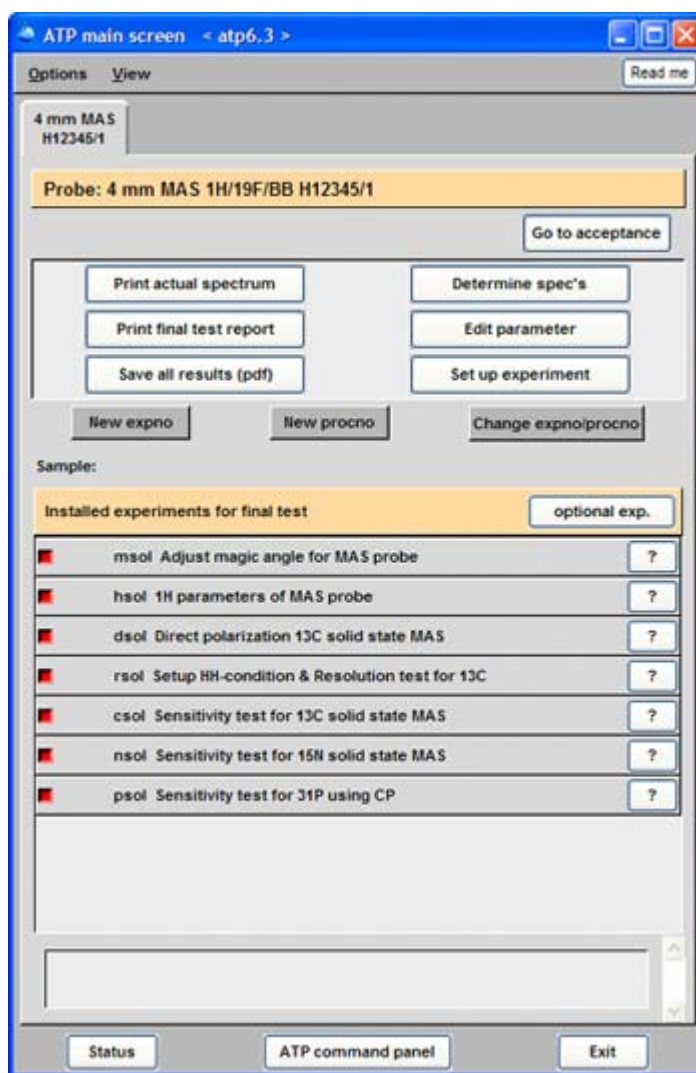

Figure 2.1 ATP Panel for Testing CPMAS Probes
1. Use either the parameter set **SOLIDS1H**, or select the *hso* experiment item line from the ATP panel experiment list (see Figure 2.1).